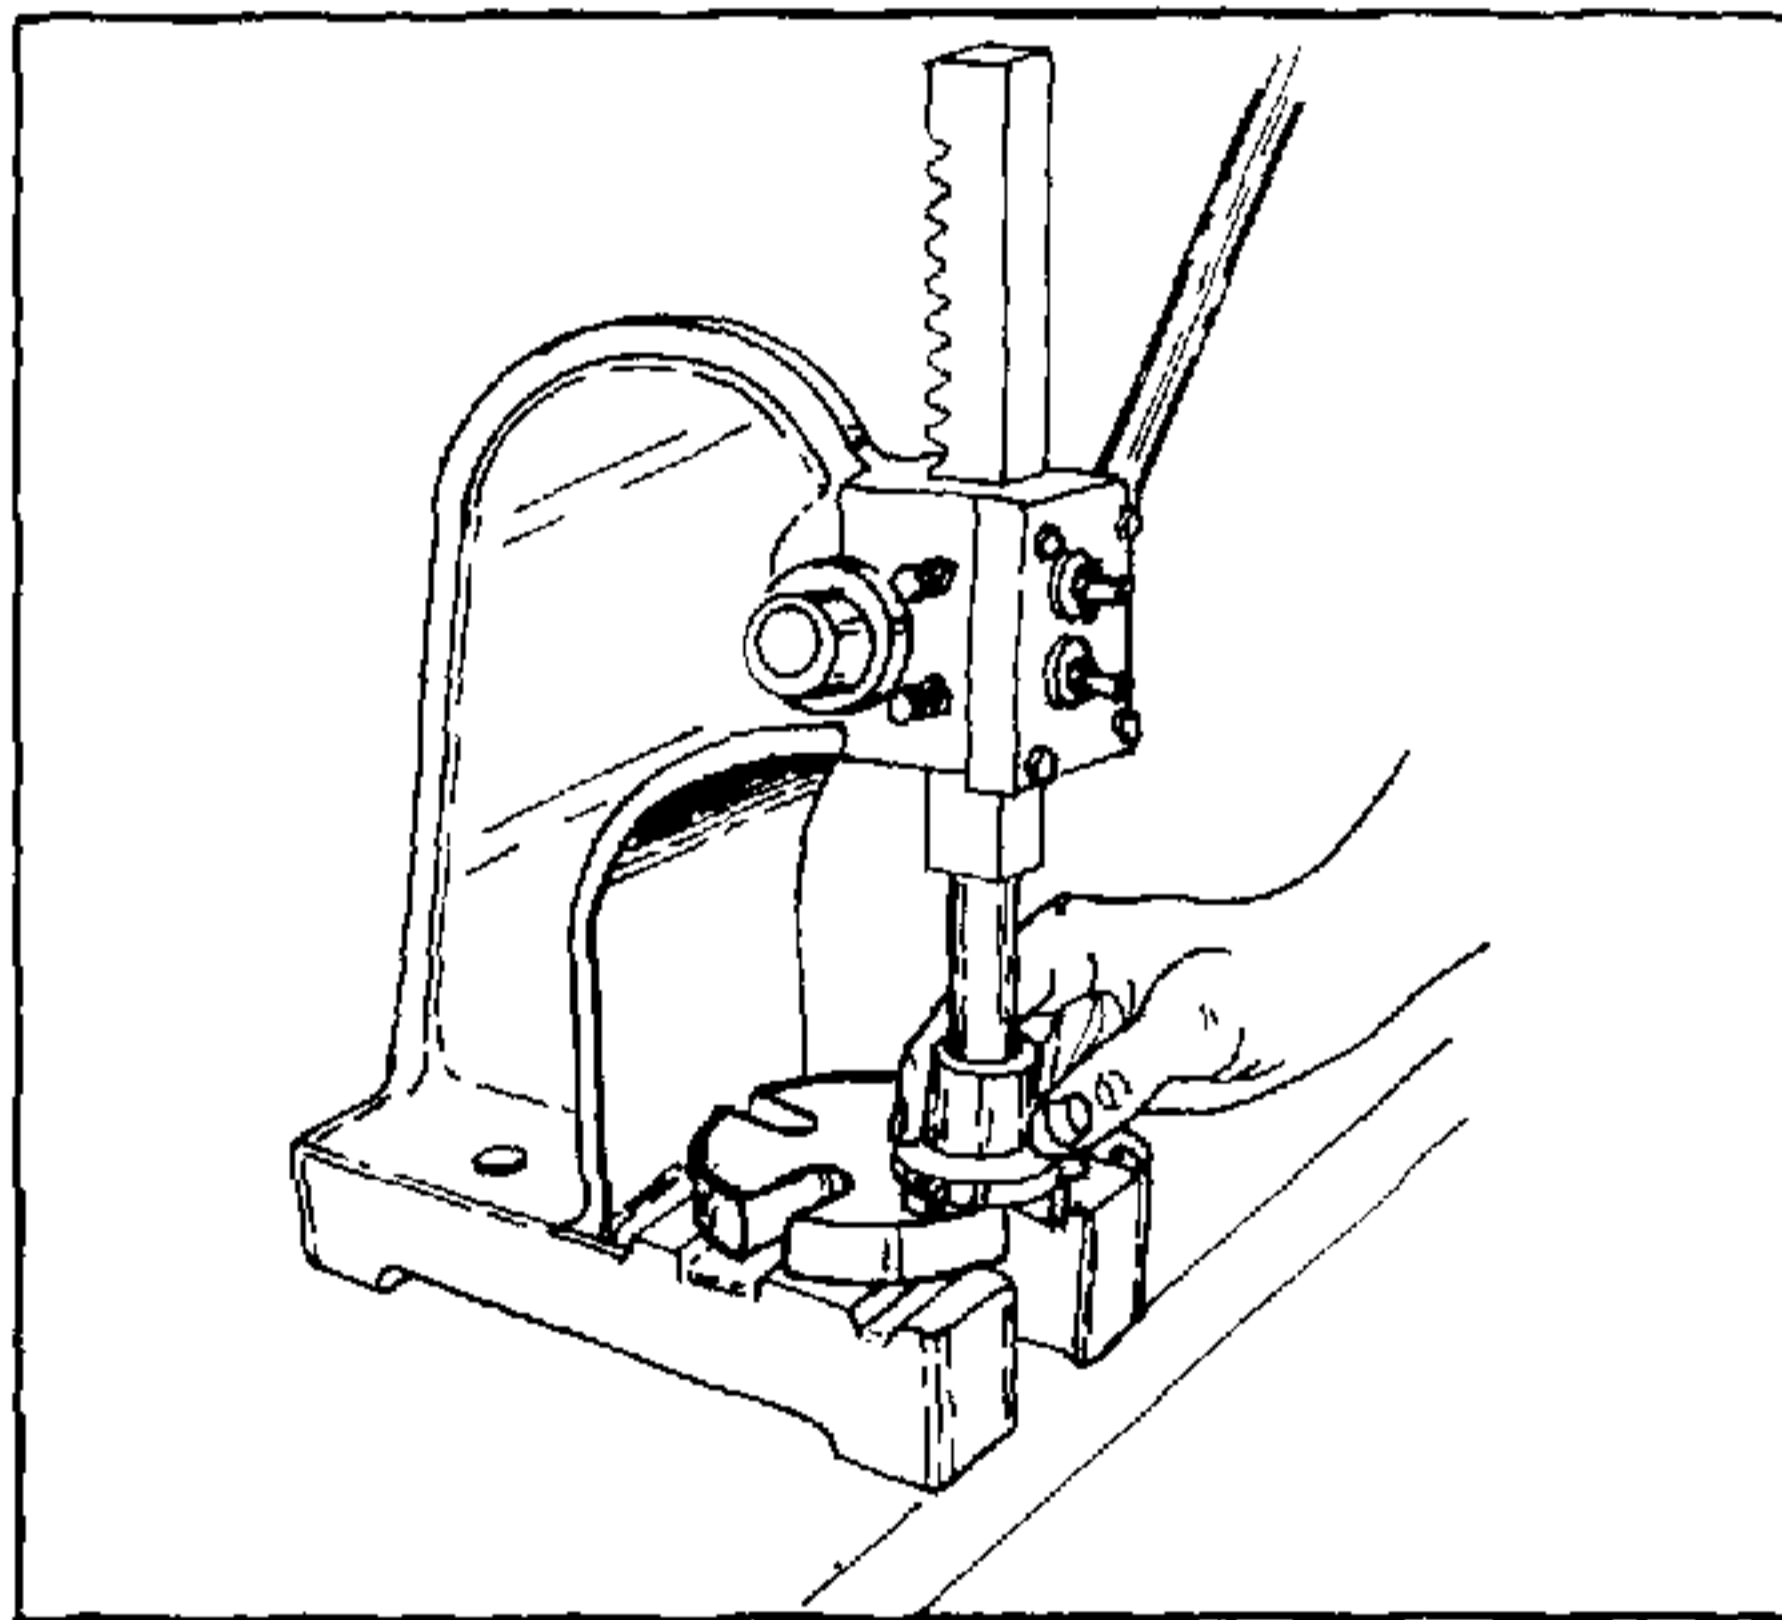

FIGURE 2.
- 3.22 With a suitable arbor push both needle bearings through housing as shown in figure 2.